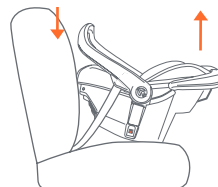
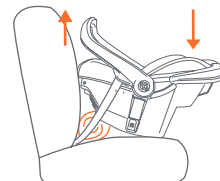

Fig. 52-2
Fig. 52-3
- If the Seat Angle Indicator line is not level, the Safety Seat is either **too upright** or **too reclined**. If the Safety Seat is too reclined adjust the Safety Seat as shown in (Fig. 52-2), until the level indicator shows **level**. If the Safety Seat is too upright, place a tightly rolled towel, or pool noodle, under the foot end of the Safety Seat until the level indicator shows level (Fig. 52-3). Re-tighten the vehicle seat belt as instructed in section **Securing the**